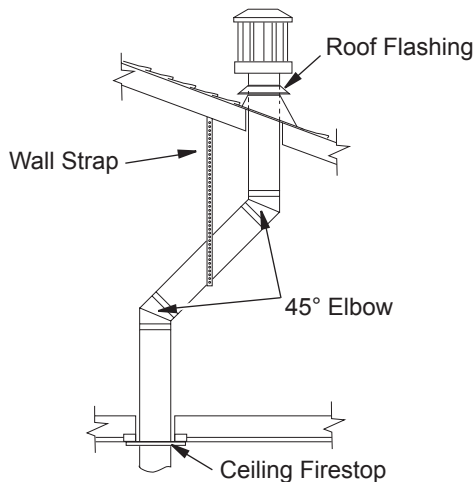

Figure 19 - Offset with Wall Strap and 45° Elbows
1. Determine the route your vertical venting will take. If ceiling joists, roof rafters or other framing will obstruct the venting system, consider an offset (see Figure 19) to avoid cutting load bearing members. **Note:** Pay special attention to these installation instructions for required clearances (air space) to combustibles when passing through ceilings, walls, roofs, enclosures, attic rafters, etc. Do not pack air spaces with insulation. Also note maximum vertical rise of the venting system and any maximum horizontal offset limitations.
**Note:** If an offset is needed to avoid obstructions, you must support the vent pipe every 3 feet. Use wall straps for this purpose (see Figure 19). Whenever possible, use 45° elbows instead of 90° elbows. The 45° elbow offers less restriction to the flow of the flue gases and intake air.
5. Place the flashing over the pipe section(s) extending through the roof. Secure the base of the flashing to the roof and framing with roofing nails. Be sure roofing material overlaps the top edge of the flashing as shown in Figure 19. There must be a 1" clearance from the vent pipe to combustible materials.